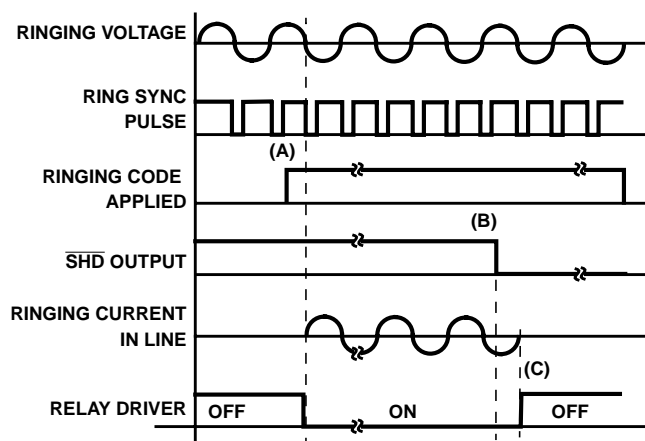

FIGURE 19. RINGING SEQUENCE
Figure 19 shows the sequence of events from ringing the phone to ring trip. The ring relay turns on when both the ringing code and ring sync pulse are present (A). \overline{SHD} is high at this point. When the subscriber goes off hook the \overline{SHD} pin goes low and stays low until the ringing control code is removed (B). This prevents the \overline{SHD} output from pulsing after ring trip occurs. At the next zero current crossing of the ring signal, ring trip occurs and the ring relay releases the line to allow loop current to flow in the loop (C).